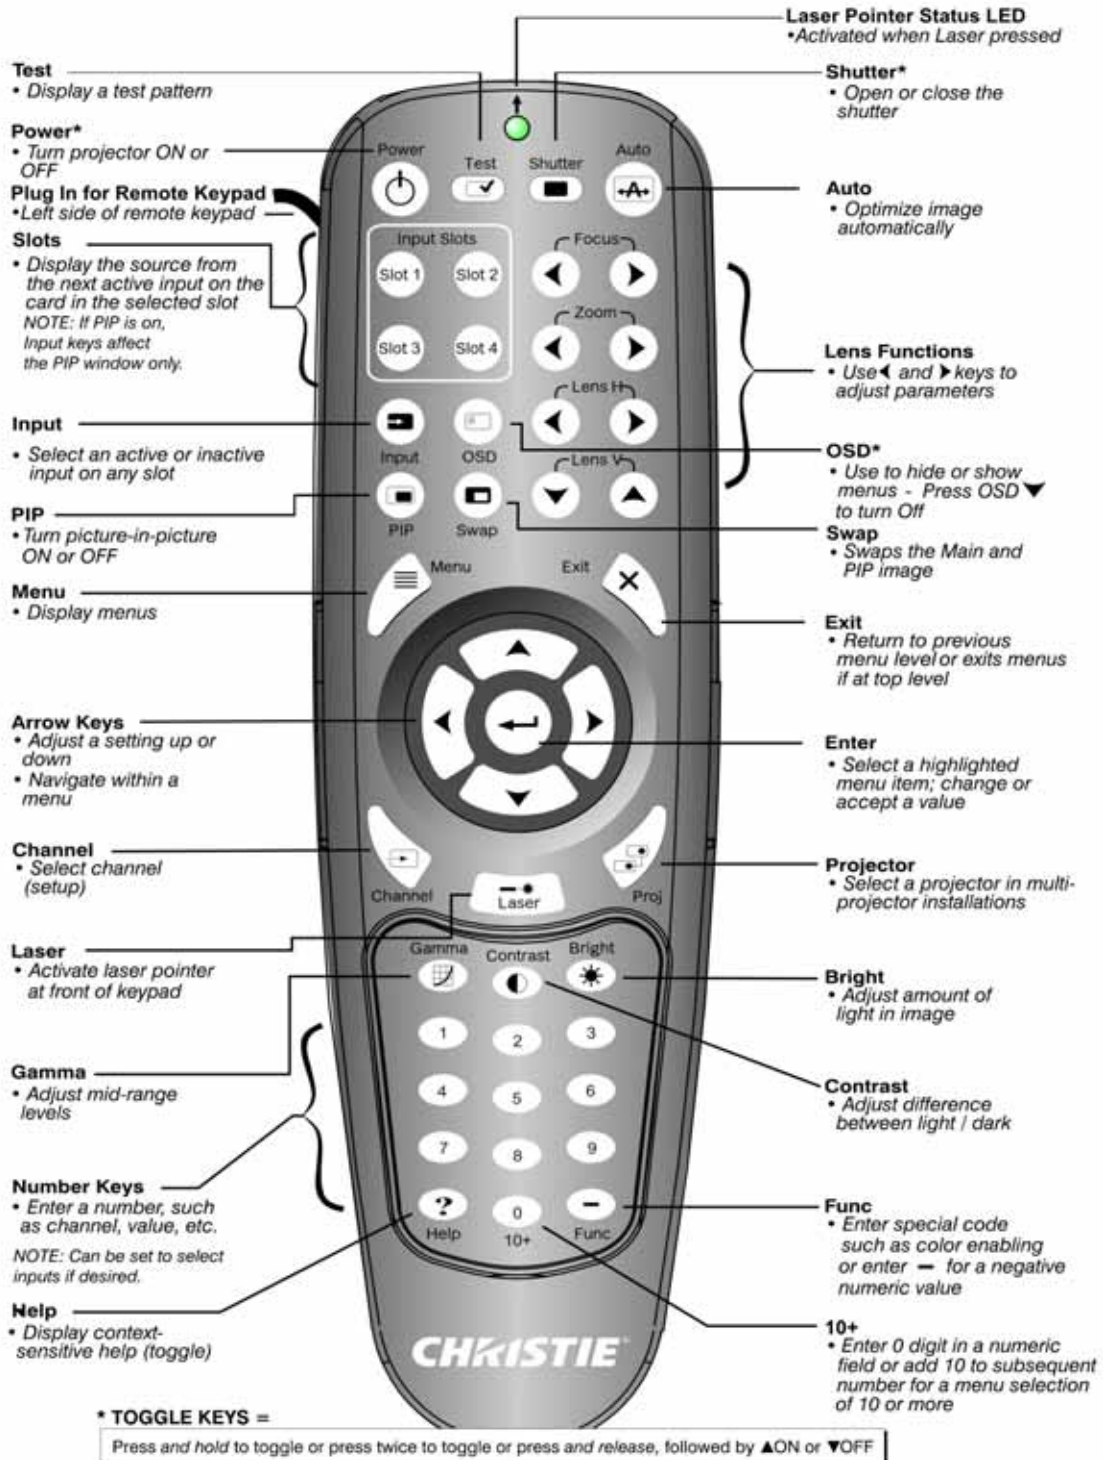

FIGURE 3-1 REMOTE KEYPAD
- **Remote Keypad:** For wired or wireless control up to 25 feet (8 m) away (includes cable for use as a wired remote). The remote keypad controls the projector by way of wireless communications from a battery-powered infrared (IR) transmitter. Use the remote keypad the same way you would use a remote keypad supplied with a TV or VCR. When pressing a function key, direct the keypad toward the projector's front or rear IR sensor. One of the two IR sensors on the projector will detect the signal and relay the commands for internal processing. A laser pointer is built into the remote keypad. See **Figure 3-1 Remote Keypad**.
NOTE: Use **POWER**, **SHUTTER**, and **OSD FUNCTIONS** by doing one of the following: “press-and-hold” (2 seconds) or press twice quickly, followed by pressing either the **UP ARROW KEY** to switch on or the **DOWN ARROW KEY** to switch off once. See **Figure 3-1 Remote Keypad**.
See **Figure 3-1 Remote Keypad** for the description of the keys provided for the remote keypad.
Specific keypad commands are explained in **Figure 3-1 Remote Keypad**.